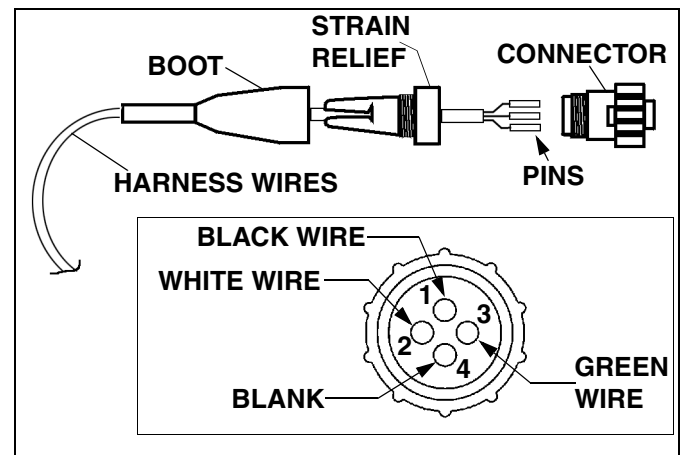

Figure 1-6
7. Insert harness wires through boot and then through strain relief (See Figure 1-6). Push the pins on the end of each of the three wires into the back side of the connector (the end with external threads and numbers 1 thru 4 on the surface). The black wire must be inserted into hole #1 of the connector (note that the holes in the connector are numbered adjacent to each hole). The white wire must be inserted in hole #2 and the green wire must be inserted in hole #3.